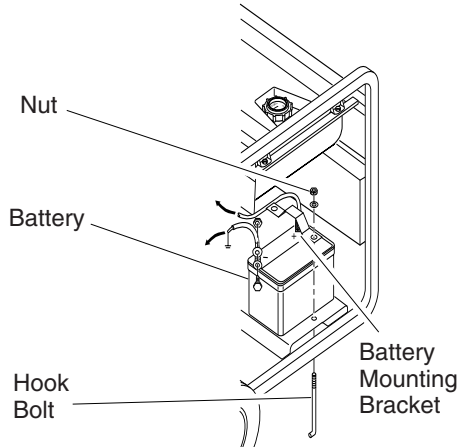

Figure 11 - Battery Hold-Down System (Model RGH11000IE Shown)
**Note:** Model RGH11000IE battery is located on opposite side as shown (see Figure 11, page 9).